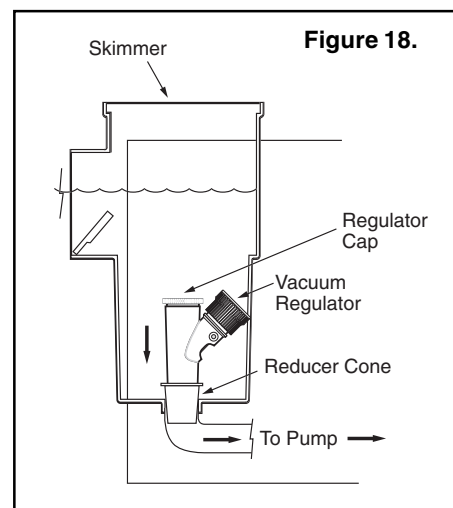

Figure 18.
5. Install the vacuum regulator. Insert the vacuum regulator and reducer cone in the skimmer, (see Figure 18). To prevent water from flowing through the top of the vacuum regulator, attach the regulator cap to the vacuum regulator.